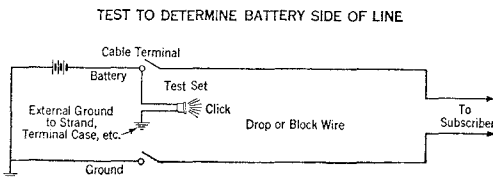

Fig. 1
2.03 The drop or block wire in which the fault is located should be found by the following test. Disconnect all drop, block or bridle wires bridged to the grounded line from the binding posts in the cable terminal, so placing the wires that they may be reconnected in their original position upon completion of the test. (If it is known which side of the line is grounded it is necessary to disconnect only the wires on the grounded side of the line.) Connect one clip of the test set to a suitable ground such as the metal terminal case or suspension strand and touch the other clip to the binding post on which battery normally should be found. (See fig. 1). If no battery click is heard in the receiver, touch the other binding post. (If still no battery click is heard there is other trouble on the line which must be cared for before proceeding with the locating of the trouble in the drop or block wire.)